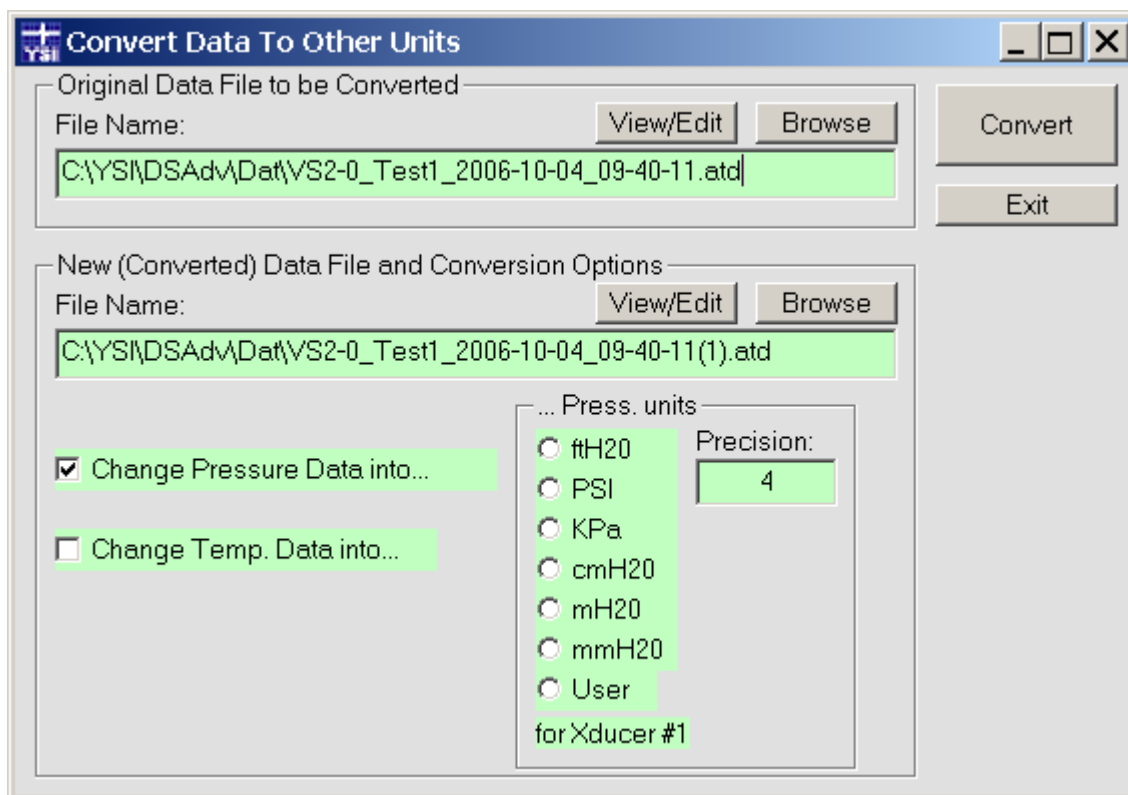

Figure 3.37
- Convert any pressure data or temperature data in any data file (.atd, .txt, or any of the equivalent .csv formats) into selected other pressure/level units or temperature units (figure 3.37).